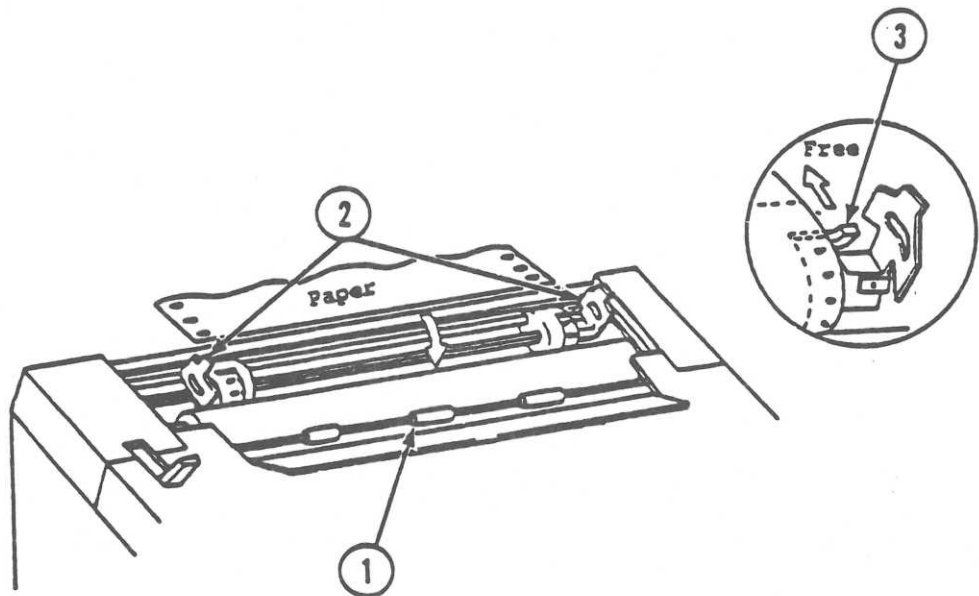

FIGURE 2
(See Figure 2, #1.)
6. Lift the covers off the right and left tractor sprockets. (See Figure 2, #2.)
7. Make sure the left tractor is all the way over to the left. To adjust the tractor, push back the white lever. (See Figure 2, #3.) Move the tractor all the way over to the left. To lock the tractor in place, pull the white lever back toward you.